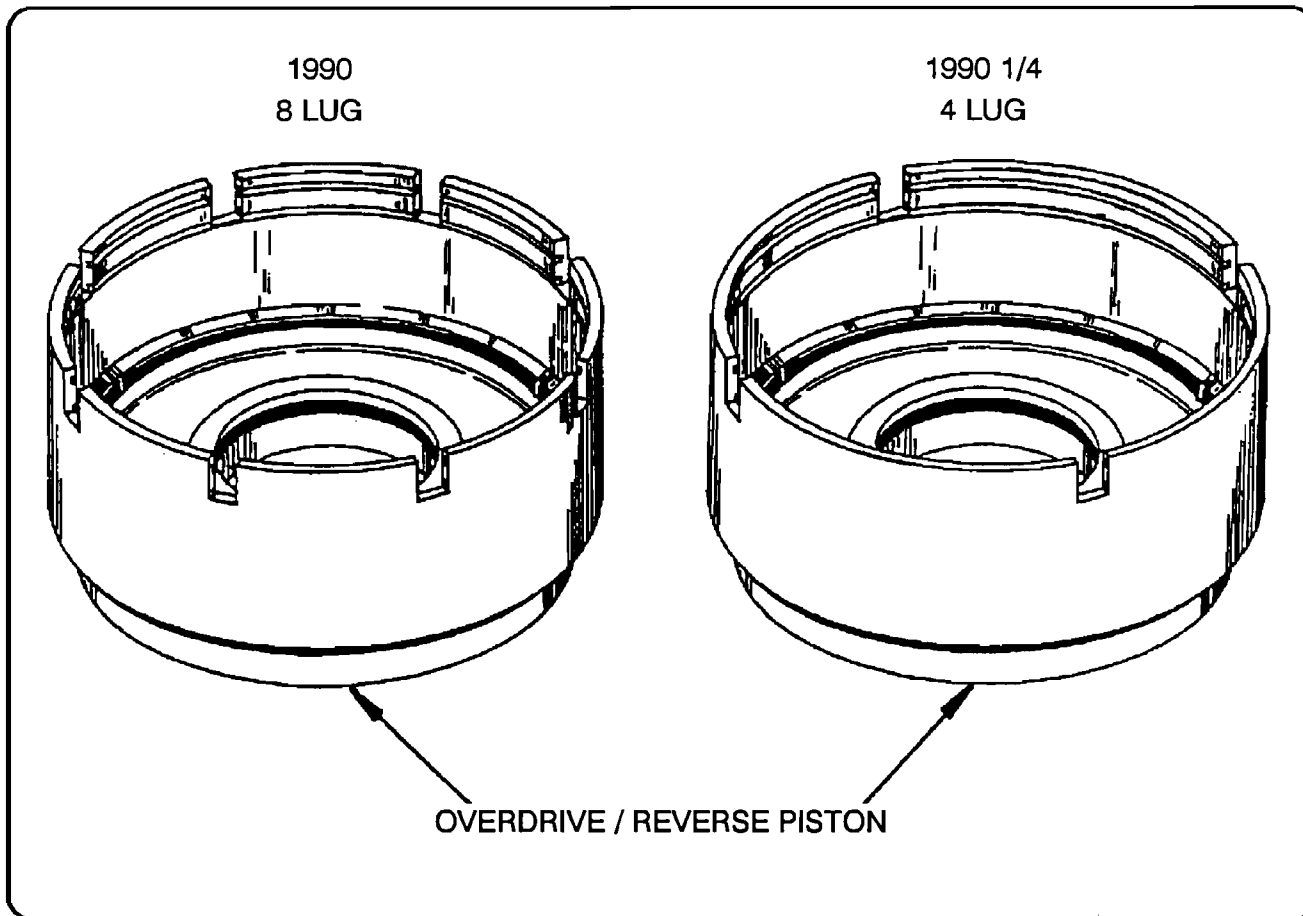

Figure 25
**CHANGE:** A new Overdrive/Reverse Piston has been introduced for 1990 1/4 model transaxles, and features four reaction plate slots instead of eight slots (See Figure 25).
- (1) OVERDRIVE/REVERSE PISTON - The new Overdrive/Reverse Piston has four slots, for the pressure plate lugs, instead of the previous eight slots and can be identified visually (See Figure 25).